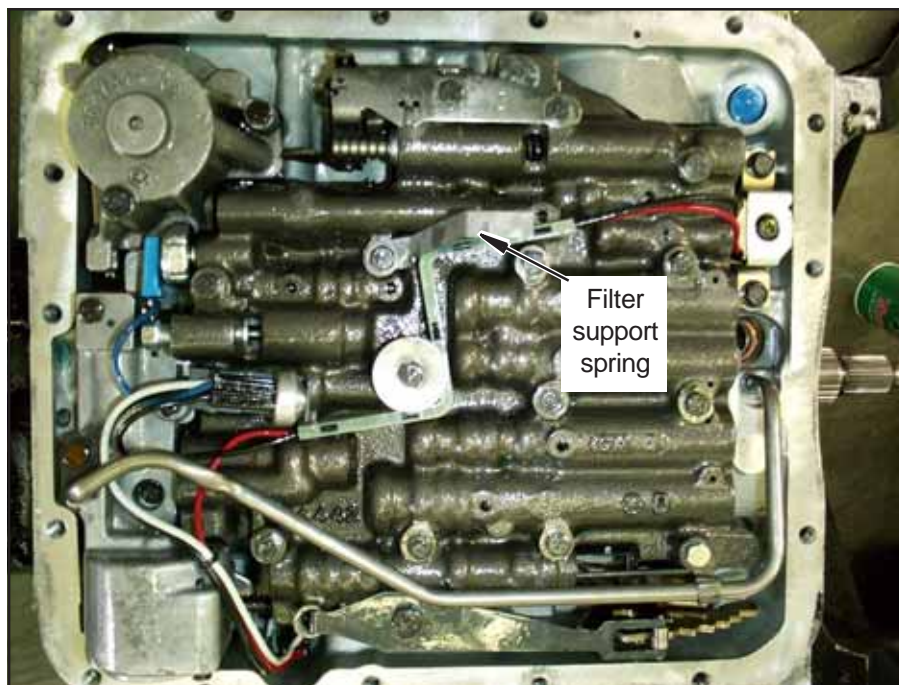

Figure 1
**STEP 3.** The stock filter is supported by a small spring located at the approximate center of the valve body. **See Figure 1.** This spring must be replaced with the longer spring supplied with the oil pan. Remove the bolt shown in **Figure 1**, take off the spring, install the B&M spring and the bolt. Tighten the bolt to 100 in.-lbs. Do not overtighten.